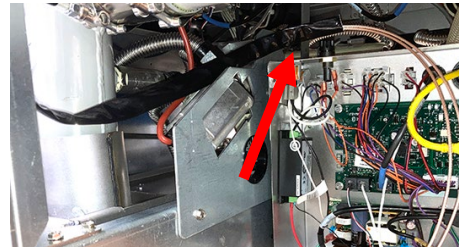

Figure 9
9. Route the insulated antenna wires over the drain and through the center channel to the rear of the FIB box (see Figure 9).